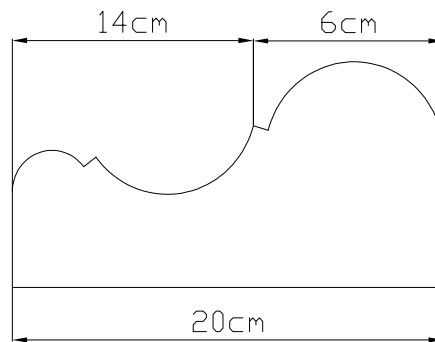

图 14
(1)the maximum width of a decorative line grinding wheel is set at  $\leq 15$ cm. a wide decorative line is wider than 15cm, and should be processed in several separate stages.(FIG.14)